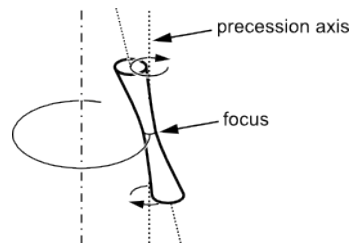

Figure 5.4: Precession
**Precession - 4th and 5th axis** The precession parameters allow the user to incline the laser beam. The inclination angle, or precession angle, can be varied along the motion of the focus. This enables the user to drill holes with negative taper or even with varying taper angles. Figure 5.4 on page 80 illustrates this. With the second generation objective lens, the focus always remains on the plane that contains the circular, elliptical, or spiral paths for all precession angles.